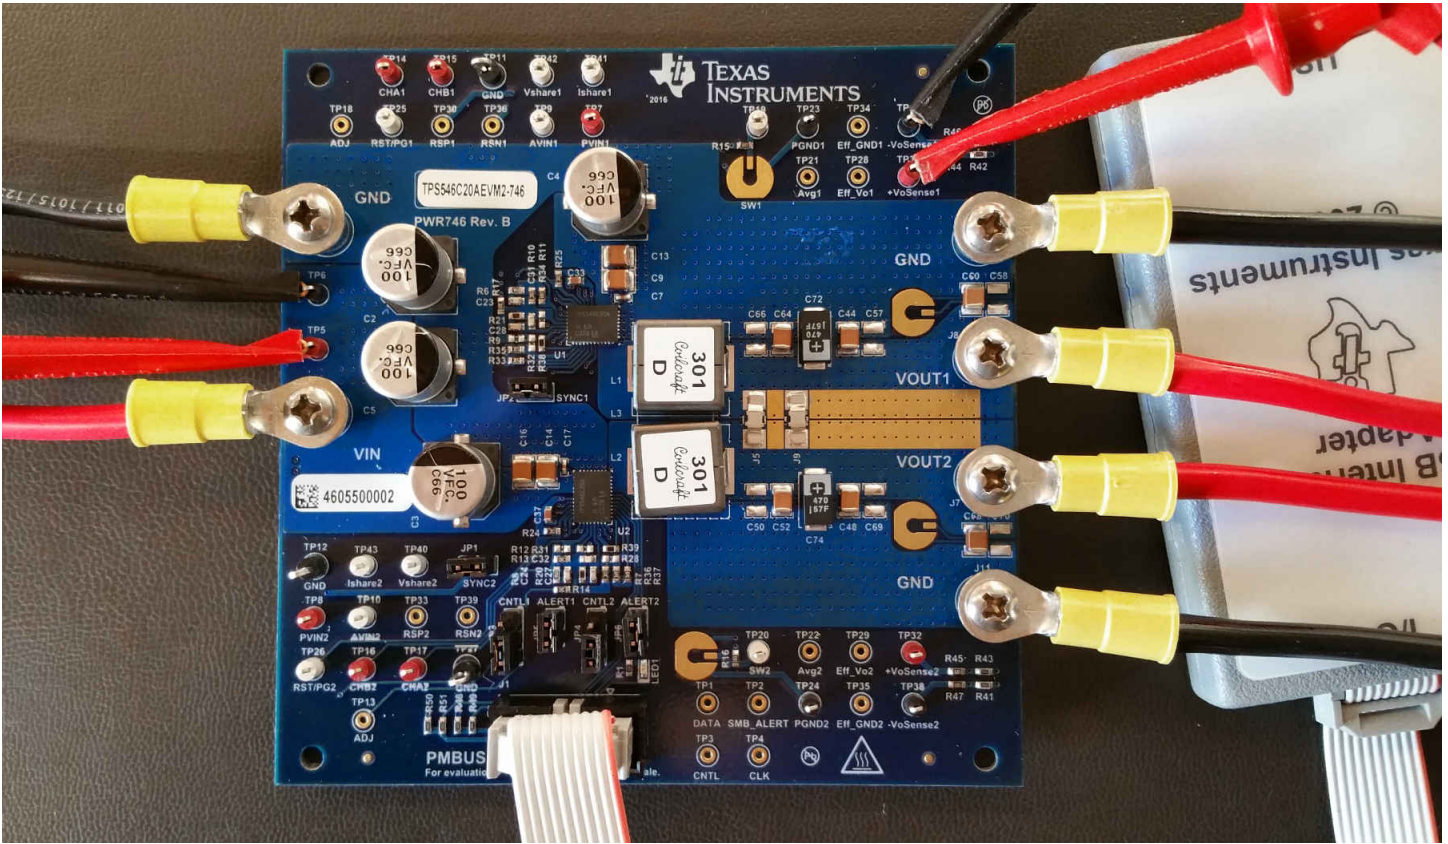

Figure 4-1. TPS546C20AEVM2-746 EVM Recommended Test Setup
(1) The output current I_{OUT} can be up to 80 A, if the output overcurrent limit (IOUT_OC_FAULT_LIMIT) is set to 45 A.
(2) The efficiency is measured based on Figure 4-1 and test setups, which includes power loss caused by on board copper traces.
The input voltage source, V_{IN} , should be a 0-V to 20-V variable DC source capable of supplying 25 ADC. Connect input VIN and GND to J2 and J3 as shown in Figure 4-1.
It is recommended to use two separate multi-meters as shown in Figure 4-1: one meter to measure V_{IN} , the other to measure V_{OUT} .
A variable electronic load is recommended for the test setup as shown in Figure 4-1. The load should be capable of 80 A.
Figure 4-1 shows the recommended test setup.